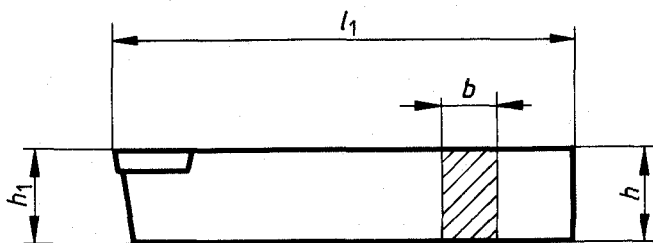

Figure 1
4.7.1 Tool holders with rectangular shank cross-section (see figure 1)
4.6.1 Tool holders with rectangular shank cross-section and height of cutting edge h_1 equal to shank height h (see figure 1)
Letter symbol	Tool length, mm (l_1 in figures 1 and 2)